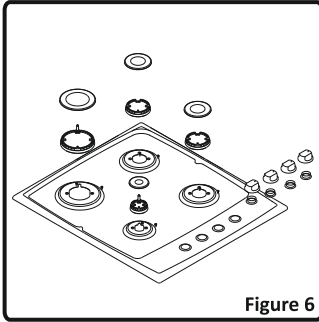

Figure 6
- Remove the burner cap and the adapter(Figure 6).